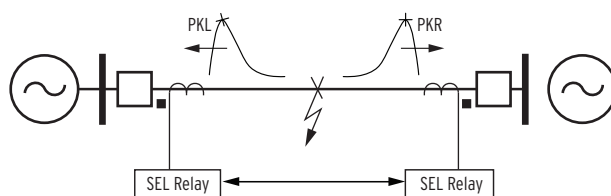

Figure 24 Relays Exchanging Peak Information Via 87L Communications Channel
When high-accuracy IRIG-B time is available, the SEL-411L uses a type D traveling wave (TW) algorithm to compute fault location. A dedicated analog-to-digital converter samples both sets of three-phase currents connected to the relay terminals (IAW, IBW, ICW, IAX, IBX, ICX) at 1.5625 MHz. Each SEL-411L in a two-terminal scheme extracts high frequency content and, based on a setting selection, uses one set of three-phase currents for fault location calculation. When an 87L or communications-assisted trip occurs, each relay terminal exchanges data along with a time stamp, and the SEL-411L relays then use this information to calculate a fault location. Figure 24 shows the traveling waves captured at each terminal.